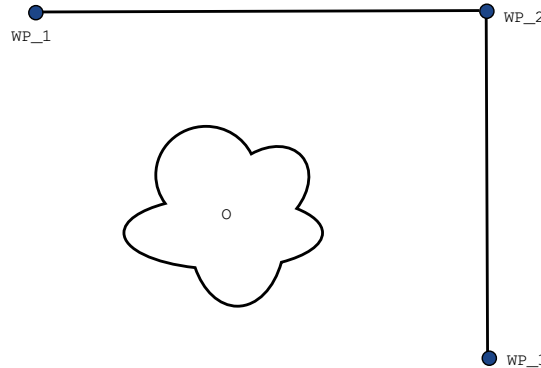

Figure 14.2: WP\_1: initial position, WP\_2: via point, WP\_3: pick up position, O: obstacle.
**Example** Consider a pick and place application as an example (see figure 14.2), where the robot is currently at Waypoint 1 (`WP_1`), and it needs to pick up an object